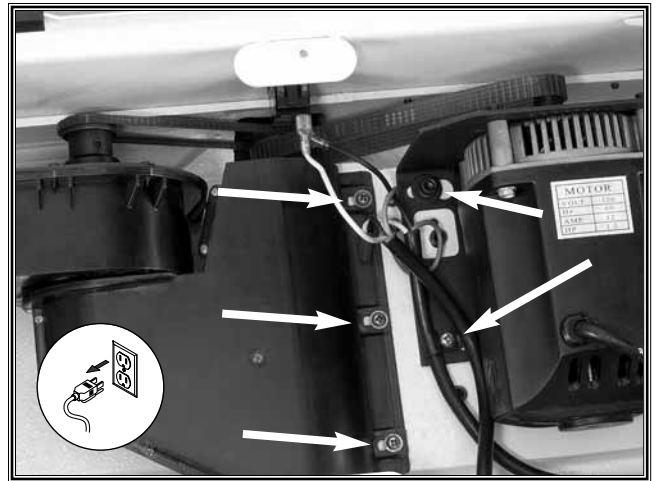

Figure 44. Motor and impeller mount plate screws.
3. Loosen the screws securing the motor mount plate and the impeller mount plate (**Figure 44**).